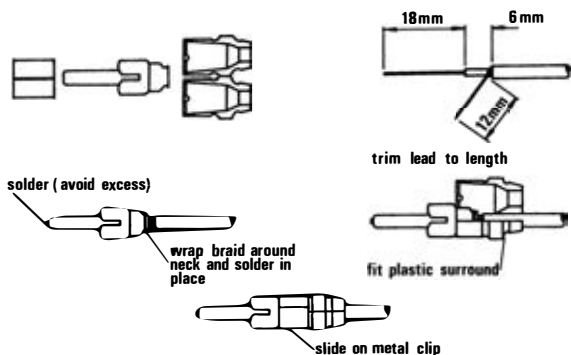

FIG. 44. Wiring of one type of phono connector
**Phono:** A type of connector for coaxial leads. Probably the most common on domestic equipment. *See* Fig. 44 for wiring